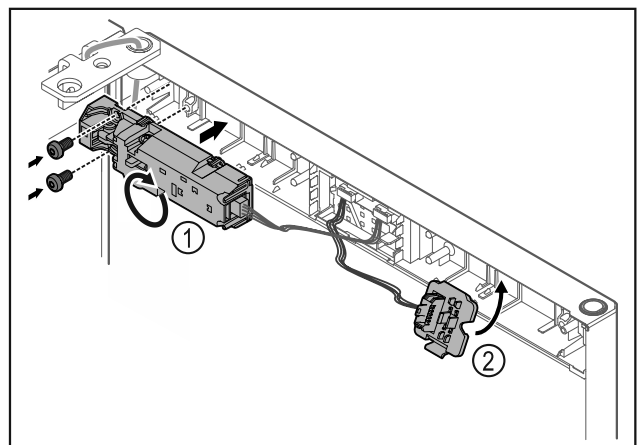

Fig. 24
- ▶ Turn the remote lock Fig. 24 (1) by 180° and fasten it on the opposite side.
- ▶ Snap in the plug holder Fig. 24 (2) on the opposite side.